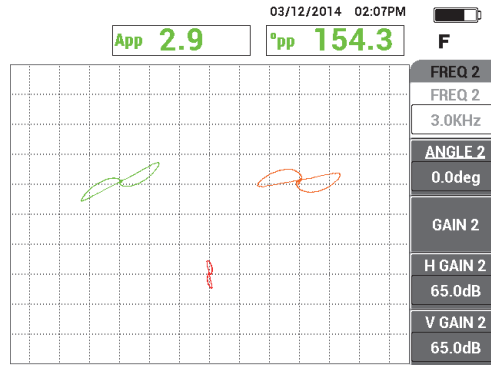

Figure 5-137 The scan of the thru-wall hole
- Slowly scan the smallest thru-wall hole only, pressing the ERASE foot switch as required to clear the screen. When the hole signal is visible on the NORTEC 600 screen, press the FREEZE key (❄️). See Figure 5-137 on page 224.